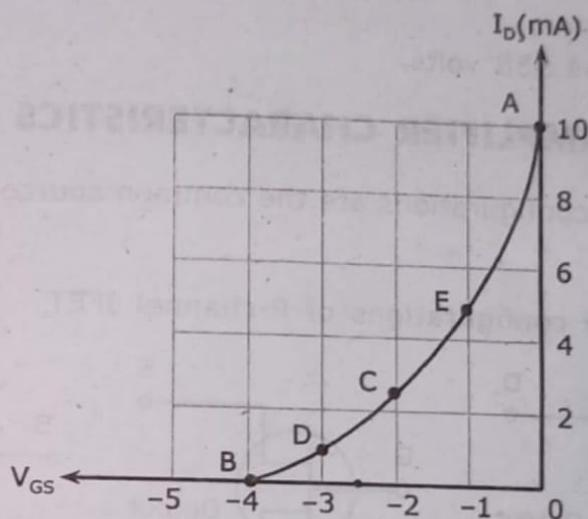

Fig. 4.4.9 Transfer Characteristics
STEP 3 : Now with the help of the above calculated points, plot the characteristics graph, as shown in Fig. 4.4.9,